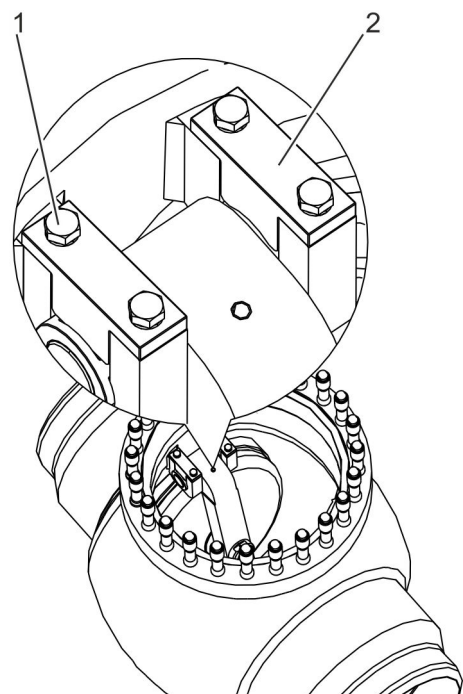

Fig. 36: Bolting brackets in place
- 16.** Use bolts and washers (Fig. 36/1) to fasten brackets (Fig. 36/2) in the retaining elements.